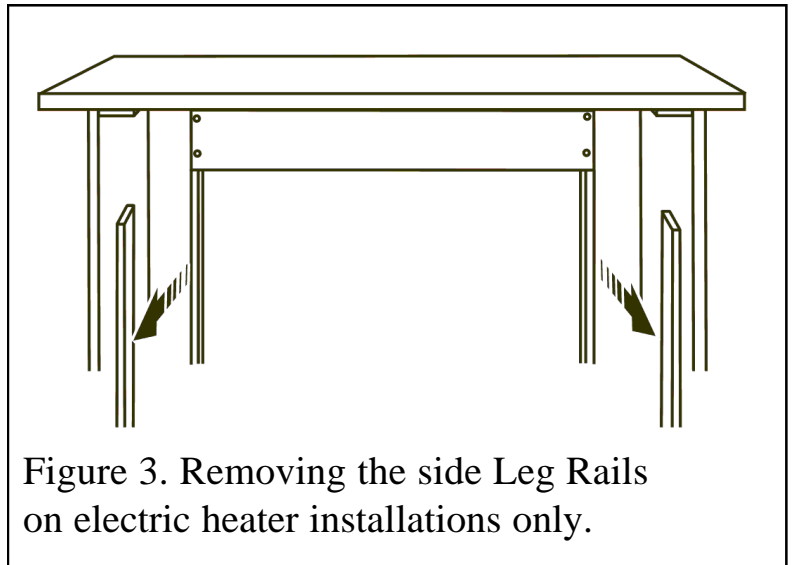

Figure 3. Removing the side Leg Rails on electric heater installations only.
- Unscrew and remove the two side Inner Rails (See figure 3).